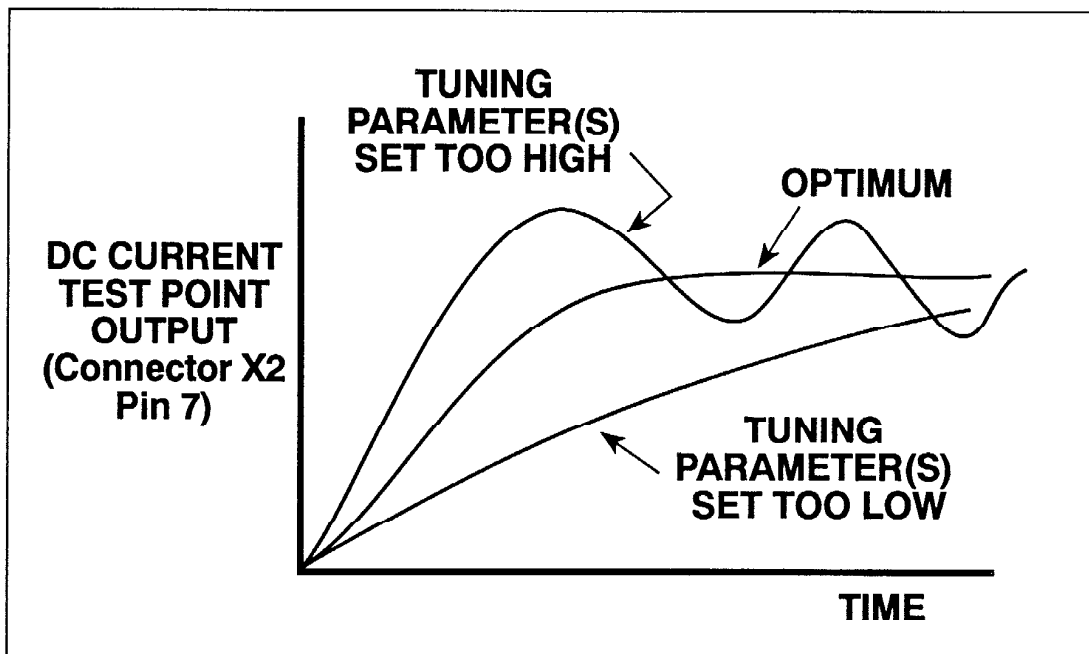

Figure 4-3 Typical Responses
4. The SBSC is fine tuned when the waveform on the oscilloscope shows either no overshoot or a single overshoot when the step command is sent (Refer to Figure 4-3). At constant velocity, the AC component of the waveform should be kept as low as possible and should not exceed $2V_{pp}$.